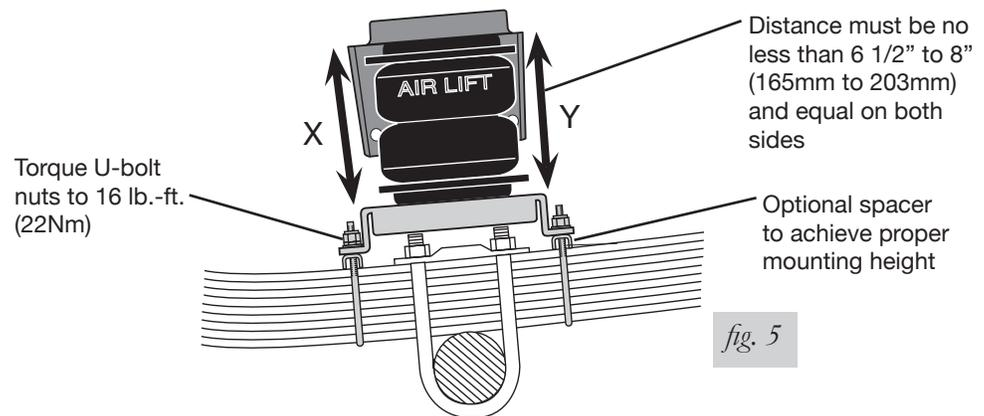

fig. 5
1. There must be 6 1/2" to 8" (165mm to 203mm) between the upper bracket and the lower bracket (distances X and Y) to install the air spring (Fig. 5). It is best to use the highest envelope available between the upper and lower bracket.